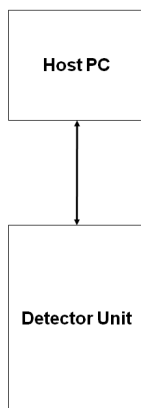

Fig. 3.4: Configuration of a Small OpenPET System.
A Detector Unit (DU), as shown in Fig. 3.2 consists of a Support Crate with between one and eight Detector Boards plugged into slots 0-7. Each Detector Board can process up to 32 analog input signals. A Detector Unit can therefore process up to 256 analog signals, which corresponds to 64 conventional block detector modules (with 4 analog outputs per module). In a Small System (Fig. 3.4), Slot 8 is empty (if data is transferred to the Host PC through USB or Ethernet via the Host PC Interface Board plugged into Slot 9). In a Standard (Fig. 3.5) or Large System (Fig. 3.6), a Coincidence Interface Board must be plugged into Slot 8 of the Detector Unit. There are two versions of the Coincidence Interface Board: Coincidence Interface Board-1 (CI-1) for the Standard System and Coincidence Interface Board-8 (CI-8) for the Large System. At present, the Coincidence Interface Board-8 has not been designed or specified. These boards transfer event data and bidirectional control data between the Detector Unit and a Coincidence Unit.
If the total number of Detector Boards is 8 or fewer, you can use a Small System (Fig. 3.4). This consists of a single Detector Unit (defined in *Detector Unit* (page 7)) connected to a Host PC. A Detector Unit (DU) can have anywhere between 1 and 8 DBs plugged into it. The initial estimate of the number of DBs in your system may need to be increased to support the camera topology. In the Small System, the default coincidence processing algorithm searches for coincidences between singles events that originate on different DBs, but it doesn't allow coincidences between singles events that originate on the same DB. Thus, more DBs may be necessary to allow all the desired coincidences, as none of the modules in a DB can be in coincidence with each other.